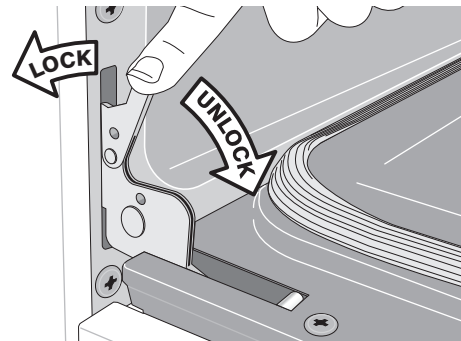

Figure 37: Door hinge locks
2. Pull the door hinge locks on both left and right door hinges down from the oven frame completely toward the oven door (See Figure 37). A tool such as a small flat-blade screwdriver may be required.
4. Push the door hinge locks up toward and into the oven frame on both left and right oven door hinges to the locked position (Figure 37).